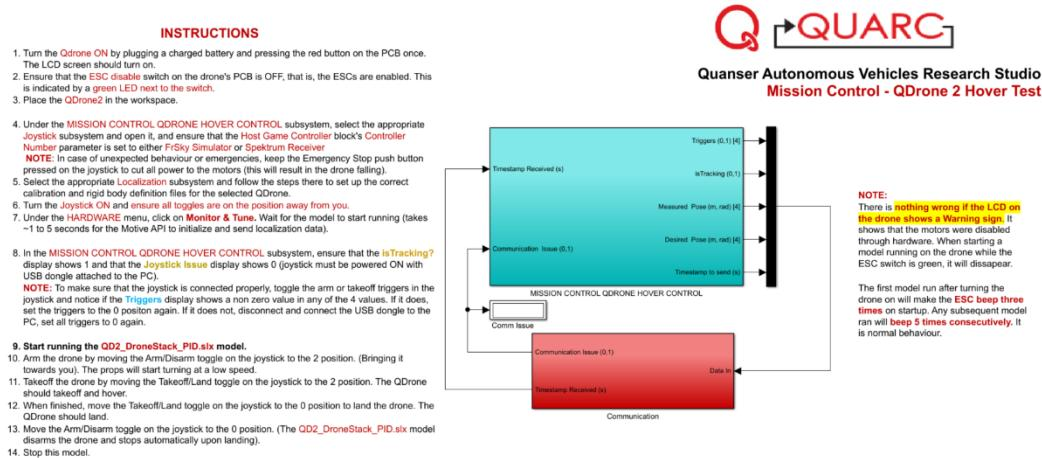

Figure 4. Mission Control Model
- Open a different MATLAB instance and from this window, in the same folder containing this file, open the folder **QDrone Hover Test**, and open **QD2\_MissionCtrl\_Hover\_2021a.slx** (Figure 4).